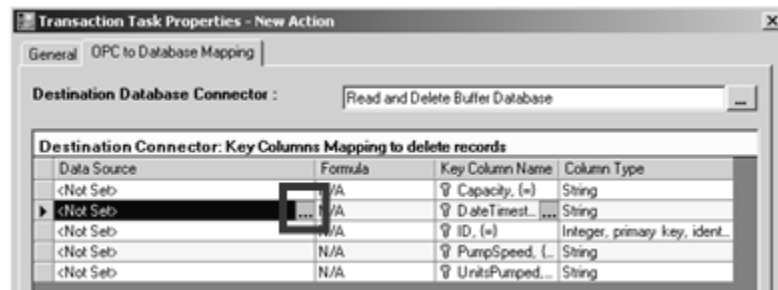

Figure L5.7 - OPC to Database Mapping
- In the Key Column Name column, select the **DateTimeStamp** entry. In the **Data Source** column click on the ellipsis button **...** in the column DateTimeStamp row as shown in Figure L5.7 This will open the Data Source Browser dialog.